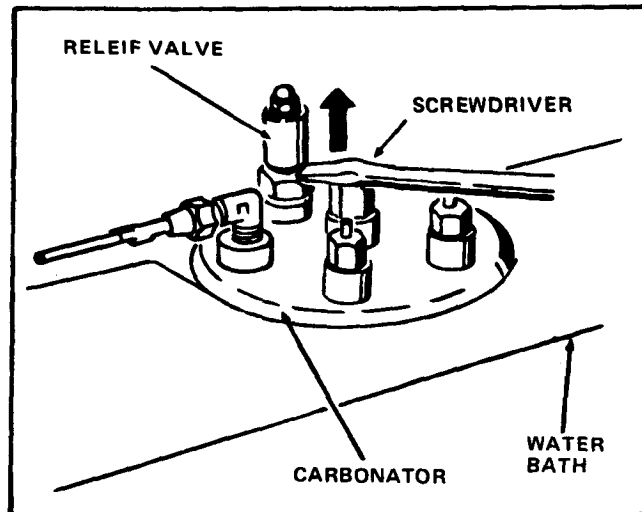

FIGURE 12
- e. Lift the body of the Relief Valve, as shown on top of the Carbonator in Figure 12.